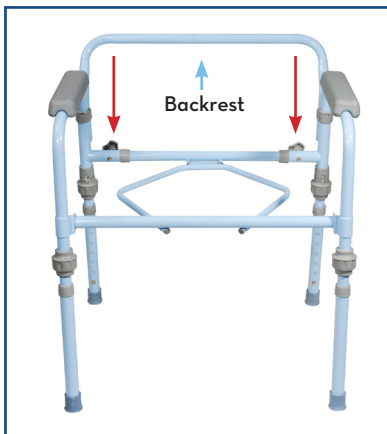

figure 7
5. Attach the backrest by depressing both push pins and sliding the back support into the frame receptacle (figure 7).